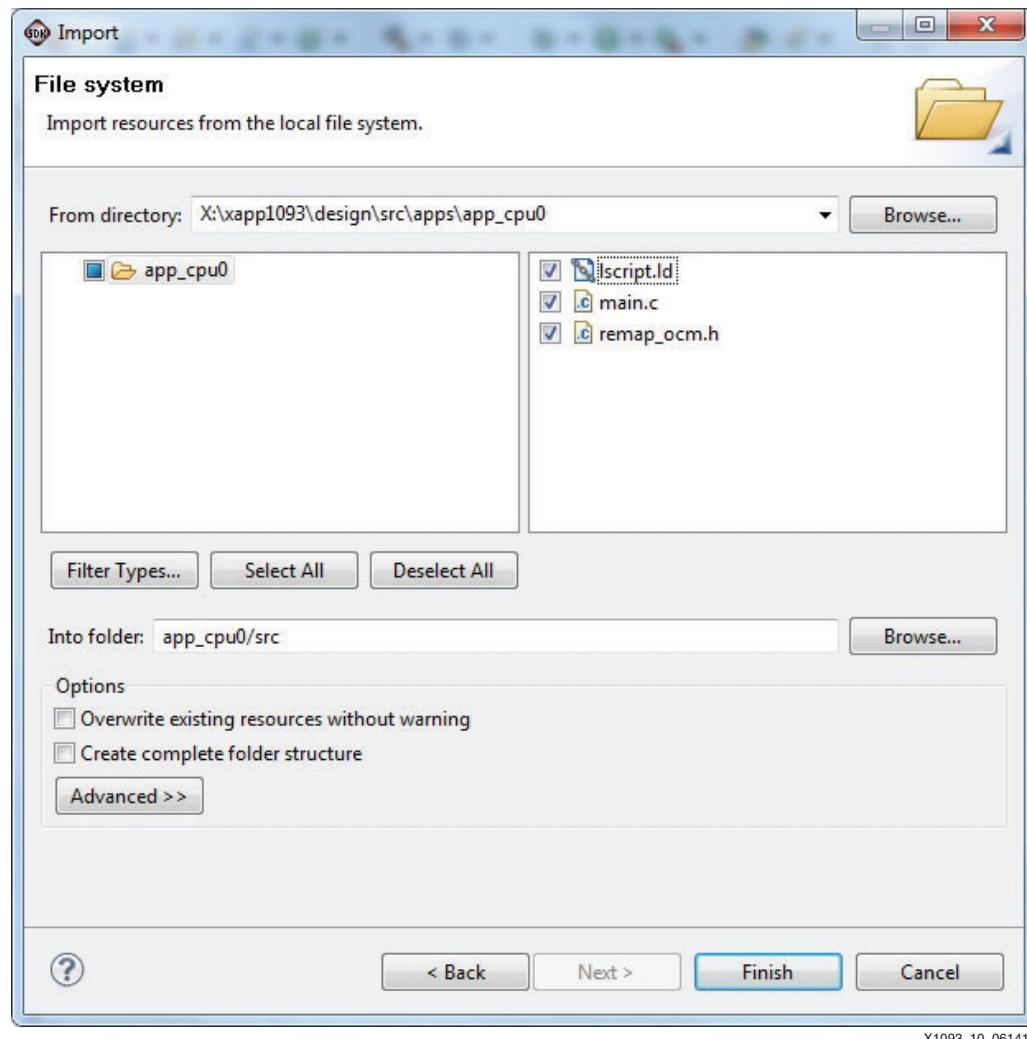

Figure 10: CPU0 Select Files to Import
13. In the right pane, select all files as shown in Figure 10.